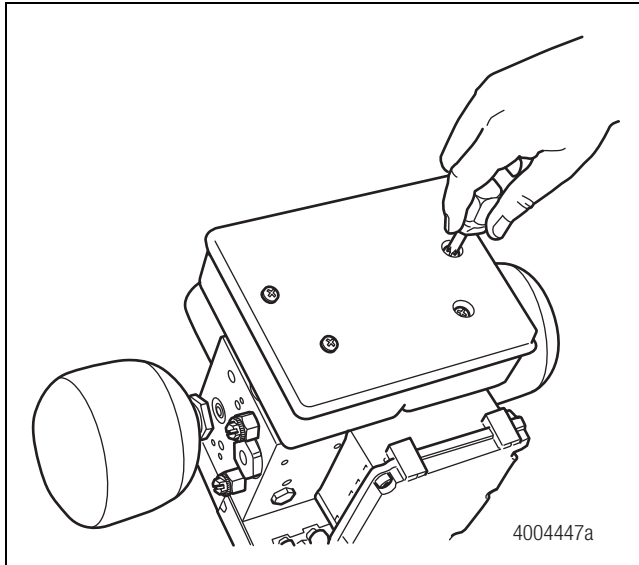

Figure 4.9
3. Use a number 4 Phillips-head screwdriver to remove the four HCU reservoir mounting screws. Then, remove the reservoir from the HCU. Figure 4.9.